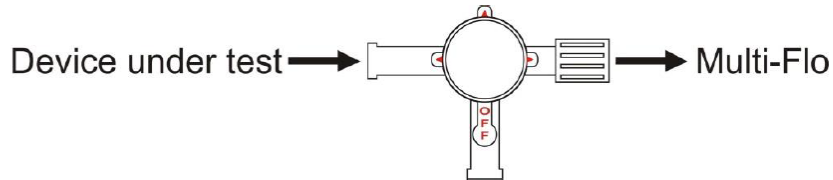

*Figure 2*
- i. Turn the 3-port valve to the position shown in figure 2
After priming the Multi-Flo, as described in section 3, connect an administration set between the device under test and the 3-port valve as shown in figure 2. Prime the device under test, administration set and 3-port valve with test fluid according to the manufacturer's instructions for the device under test.